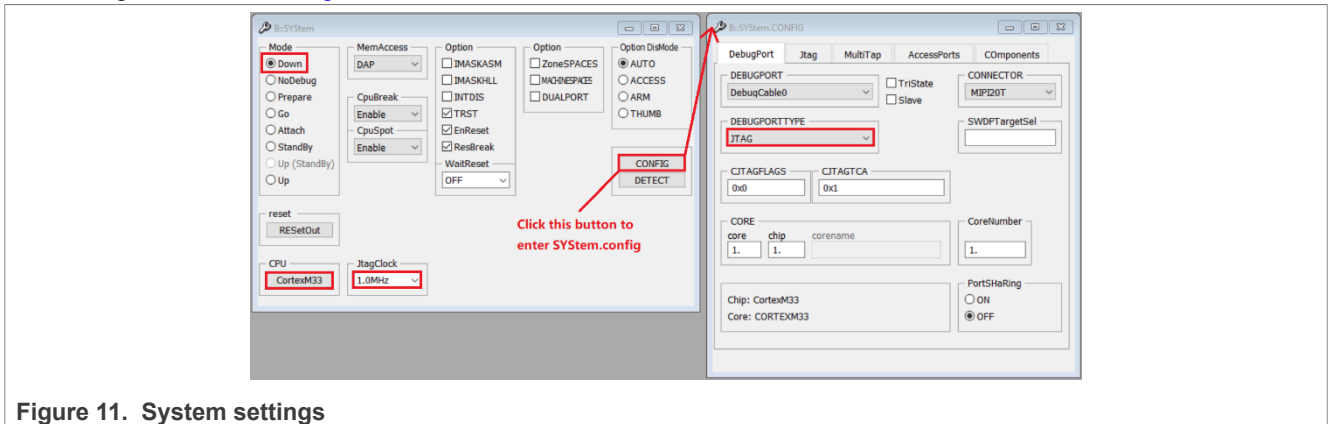

Figure 11. System settings
- Click **CPU->System Settings...** in the menu bar, a system setting dialog appears. Perform the system settings as shown in Figure 11.